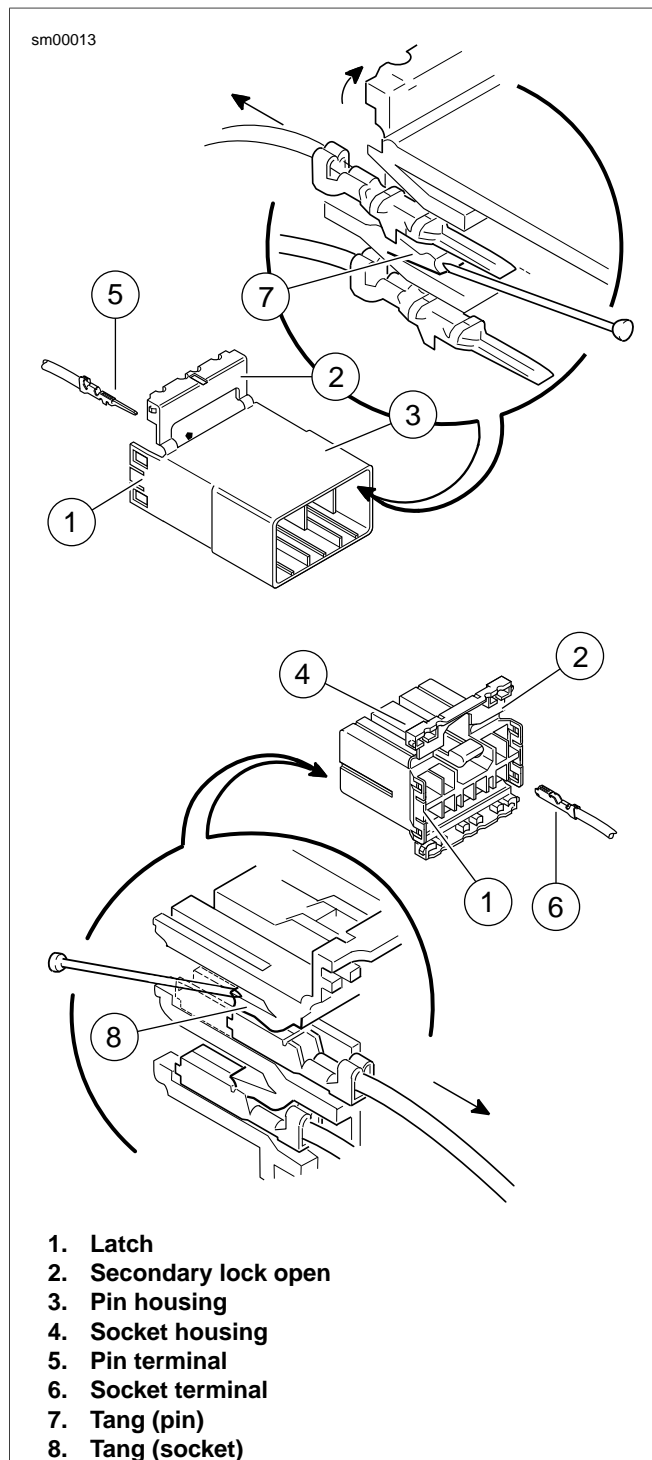
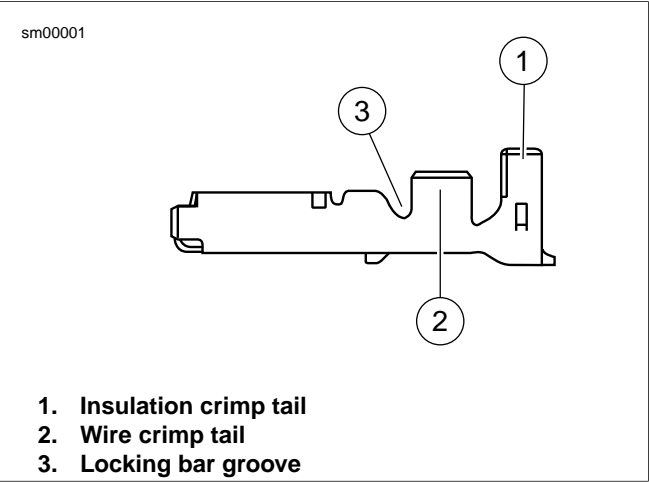

Figure A-59. Tyco 070 Multilock Unsealed Connector: Socket and Pin Housings
Figure A-62. Tyco 070 Multilock Unsealed Connector: Socket Terminal
1. See Figure A-59. Bend back the latch (1) to free one end of secondary lock (2) then repeat on the opposite end. Hinge the secondary lock outward.
- 2. See Figure A-59 and Figure A-62. Select the pin/socket terminals from the parts catalog and identify the insulation crimp tails (1) and the wire crimp tails (2) and the groove for the crimp tool locking bar (3).
See Figure A-59 and Figure A-62. Hold the terminal with the insulation crimp tail (1) facing up. The tool will hold the terminal by the locking bar groove (3) and simultaneously crimp around the stripped lead and the insulation.